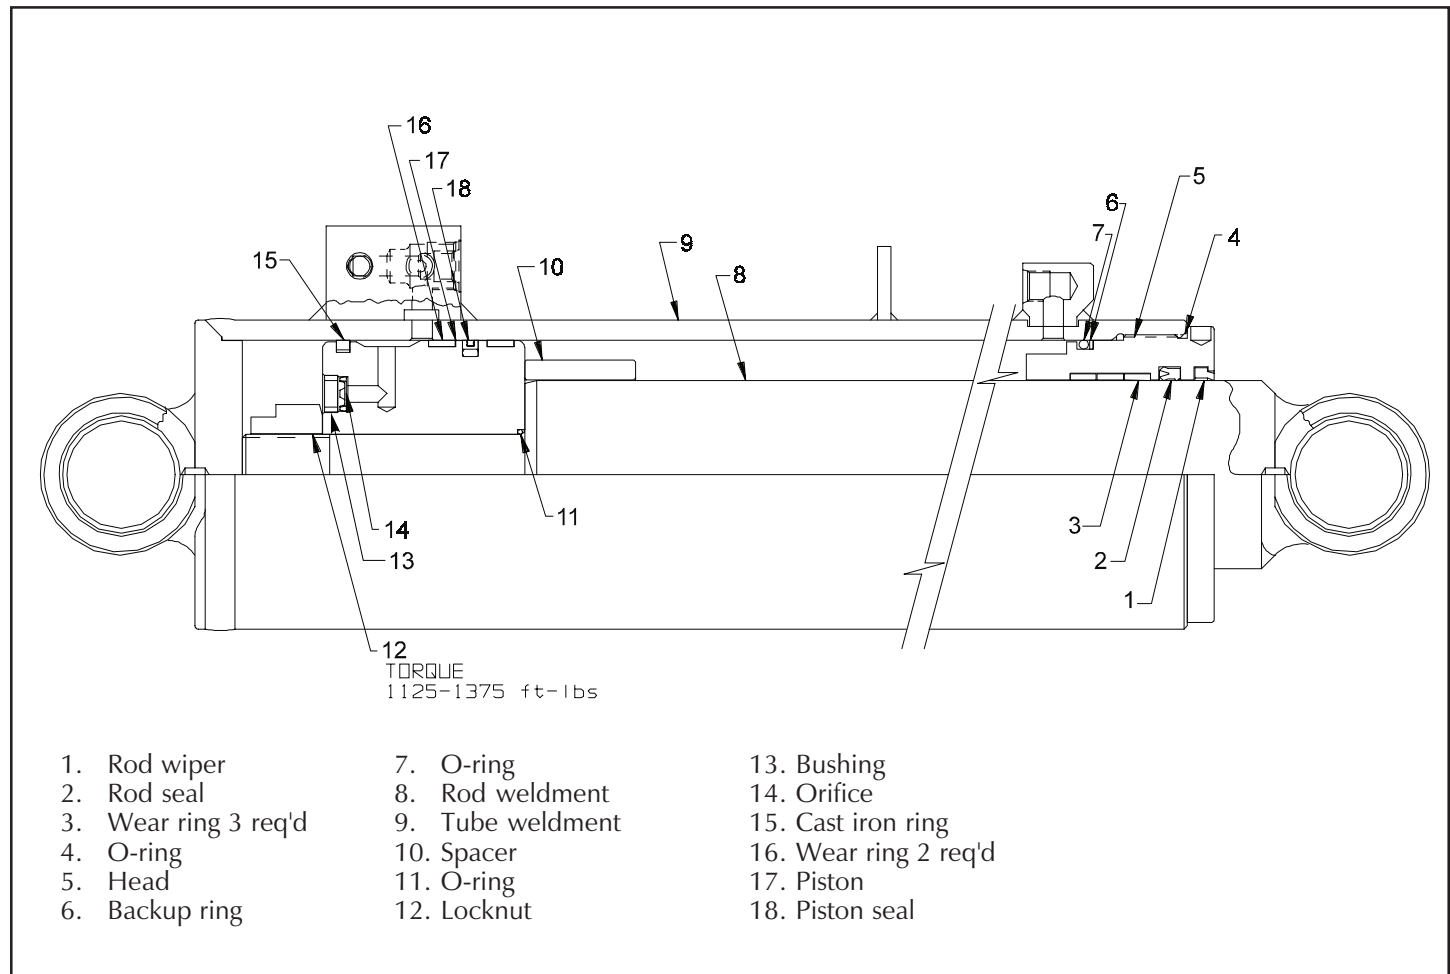

Figure 4-24 Lift Cylinder Cross Section
4.12 Lift Cylinder (Figure 4-24)
SEAL REPLACEMENT (Figure 4-24)